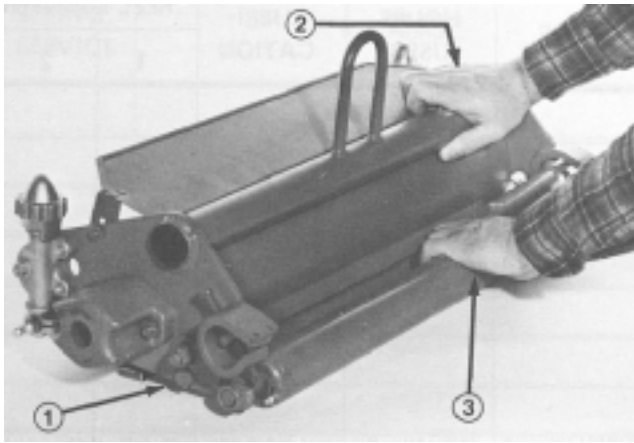

Figure 17
3. With the cutting unit reel blades positioned on the plate, hold the cutting unit securely and push down on the rear roller assembly until it contacts the working surface across the full length of the roller (Fig. 17).